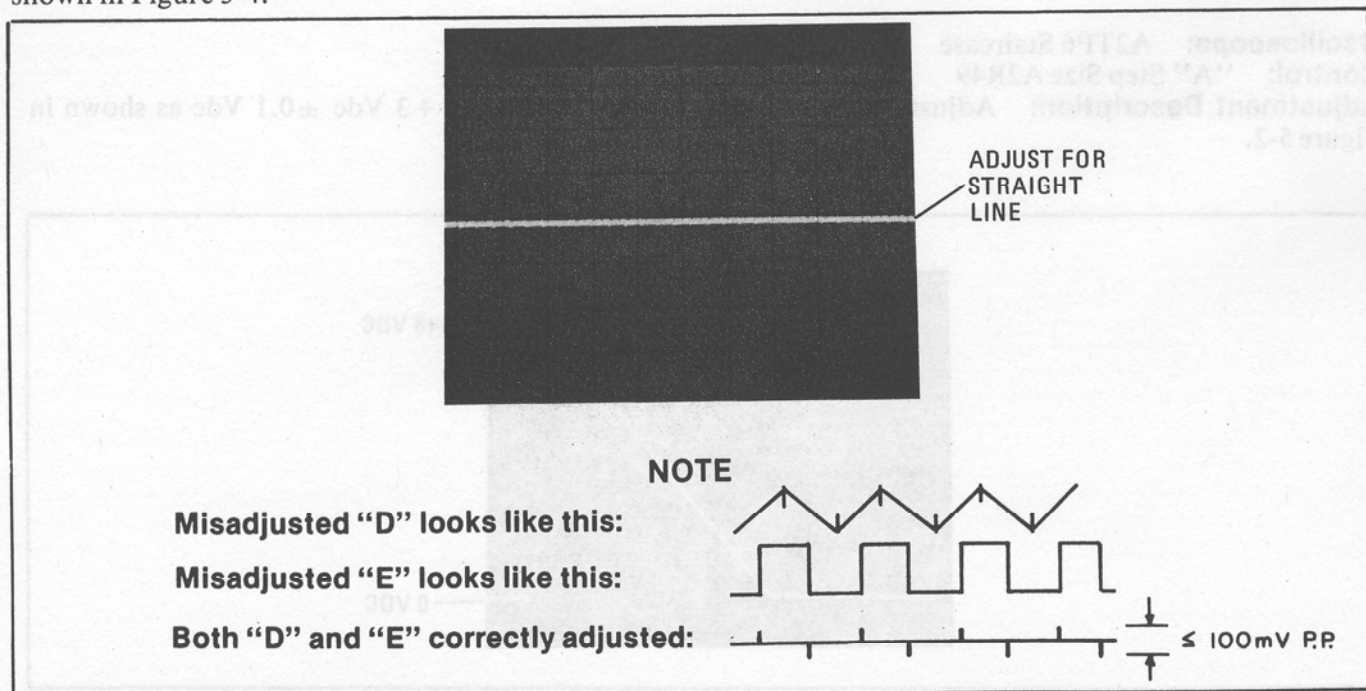

Figure 5-4. Y-Generator Waveform at A2TP5. Expanded to show Correct Balance and Compensation
**Adjustment Description:** Adjust network analyzer or spectrum analyzer to move the CRT trace off screen at top so it "clips" at the top of screen. Adjust "D" and "E" for straight thin line at top of trace as shown in Figure 5-4.